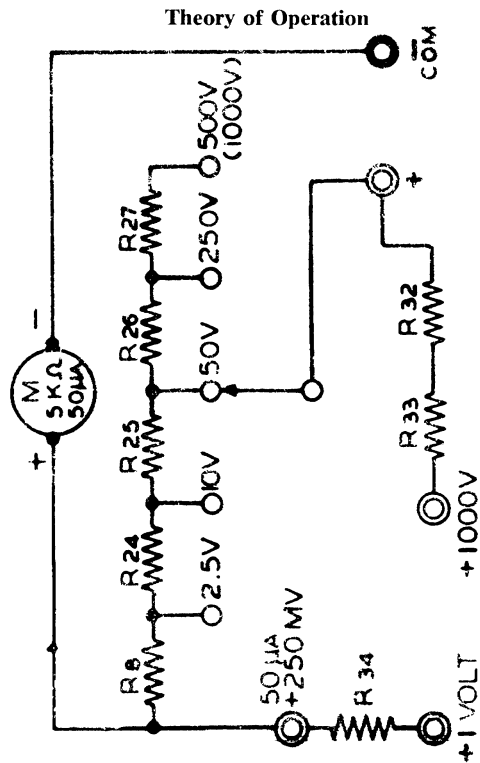

Figure 5-1. Simplified Circuit-DC Volts
5.2.1 The basic circuit configuration employed for DC voltage measurements is shown in simplified form in Figure 5-1. The metering circuit (M) in this diagram includes the calibrating network as
described above. The precision voltage ranging resistors, R34, R8, R24, R25, R26, R27, R32, and R33 provide the necessary voltage drop to yield full-scale deflection for each corresponding range as shown in Figure 5-1. Note that the 250mV, 1V, and 1000V ranges utilize separate jacks.
where R_x is defined as the total value of the shunt between the input terminals; i.e., R6 for the 500mA range, R6 + R16 for the 250mA range, etc. Measurement of current on the 50 microampere range utilizes the 50 μ A + 250mV test jack as shown in Figure 5-1.